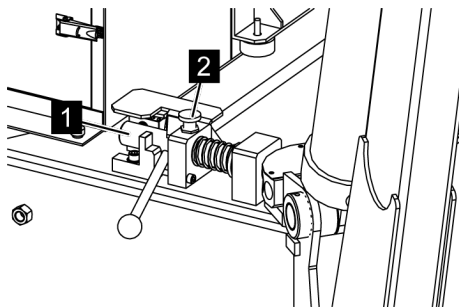

Fig. 60: Latching
4. → Put the latching bolt (Fig. 60/1) into the position shown (Fig. 60) and let the locking pin (Fig. 60/2) snap in.